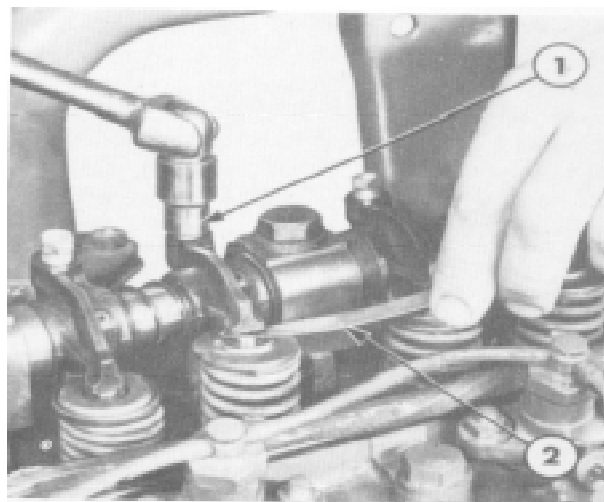

Figure 13
6. Rotate the engine and set the preliminary valve lash, Figure 13, to the specified limits. Remove the plug from the flywheel access hole, with the
Use a feeler gauge, Figure 13, to check the clearance between the valve stem and the rocker arm. Turn the rocker arm screw to adjust the clearance.